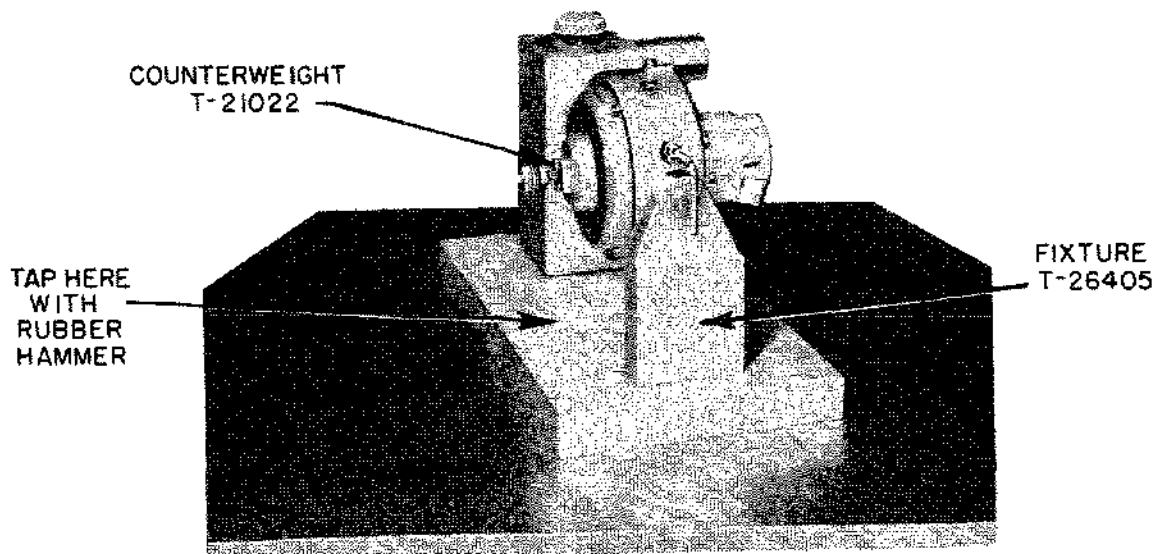

FIGURE 40 BALANCING THE GYRO HOUSING AND PENDULUM ASSEMBLY, HORIZONTAL POSITION (GYRO-HORIZON WITH CAGING DEVICE)
5. With fixture upright as shown in Fig. 40, place special counterweight, T-21022, on threads of balancing stud as close as possible to top of housing (see Fig. 40). Move lock-nuts and washers until assembly will stand perfectly horizontal on either side when base of fixture is tapped with rubber hammer. It will be necessary at times to add or remove washers, but the use of more than five washers should be avoided as this is an indication that the rotor is not properly located on its shaft. Recheck the vertical balance.